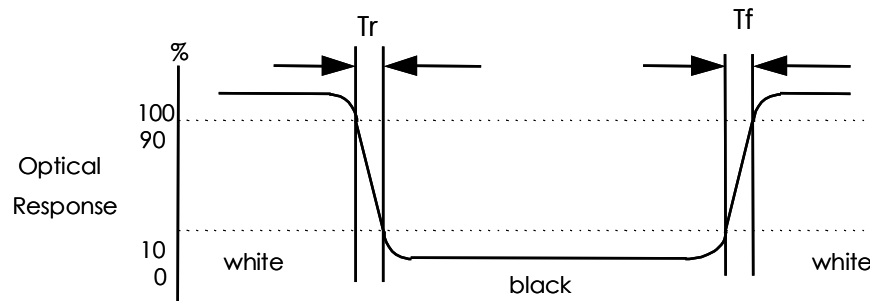

FIG.2. Measuring method for Contrast ratio, surface luminance, Luminance uniformity, CIE (x, y) chromaticity
| Contrast ratio | Cr | | 300 | 864 | - | --- | FIG 2. | 1 |
| Luminance uniformity | δ WHITE | | 83 | 92 | - | % | FIG 2. | 3 |
| Surface Luminance | Lv | | 280 | 350 | - | cd/m ² | FIG 2. | 2 |
| CIE (x, y) chromaticity | Red | x | 0.5301 | 0.5801 | 0.6301 | FIG 2. | 5 | |
Note 1. Contrast Ratio(CR) is defined mathematically as For more information see FIG 2.:
Note 2. Surface luminance is the LCD surface from the surface with all pixels displaying white. For more information see FIG 2.
Note 3. The uniformity in surface luminance, δ WHITE is determined by measuring luminance at each test position 1 through 5, and then dividing the maximum luminance of 5 points luminance by minimum luminance of 5 points luminance. For more information see FIG 2.